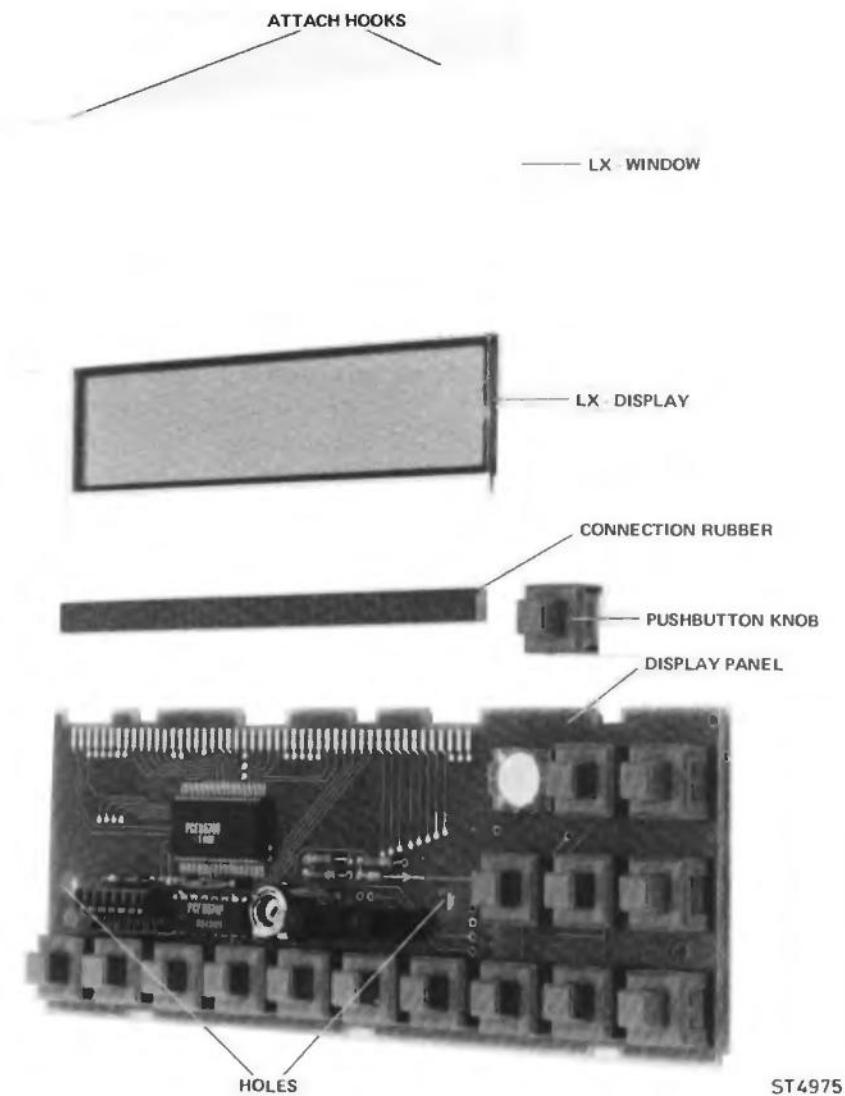

Figure 6.2
- Push the attach hooks out of the holes at the component side of the PCB and lift the LCD display from the PCB (see figure 6.2).
The assembly of the display consists of four main parts (figure 6.2). All parts can be replaced separately.